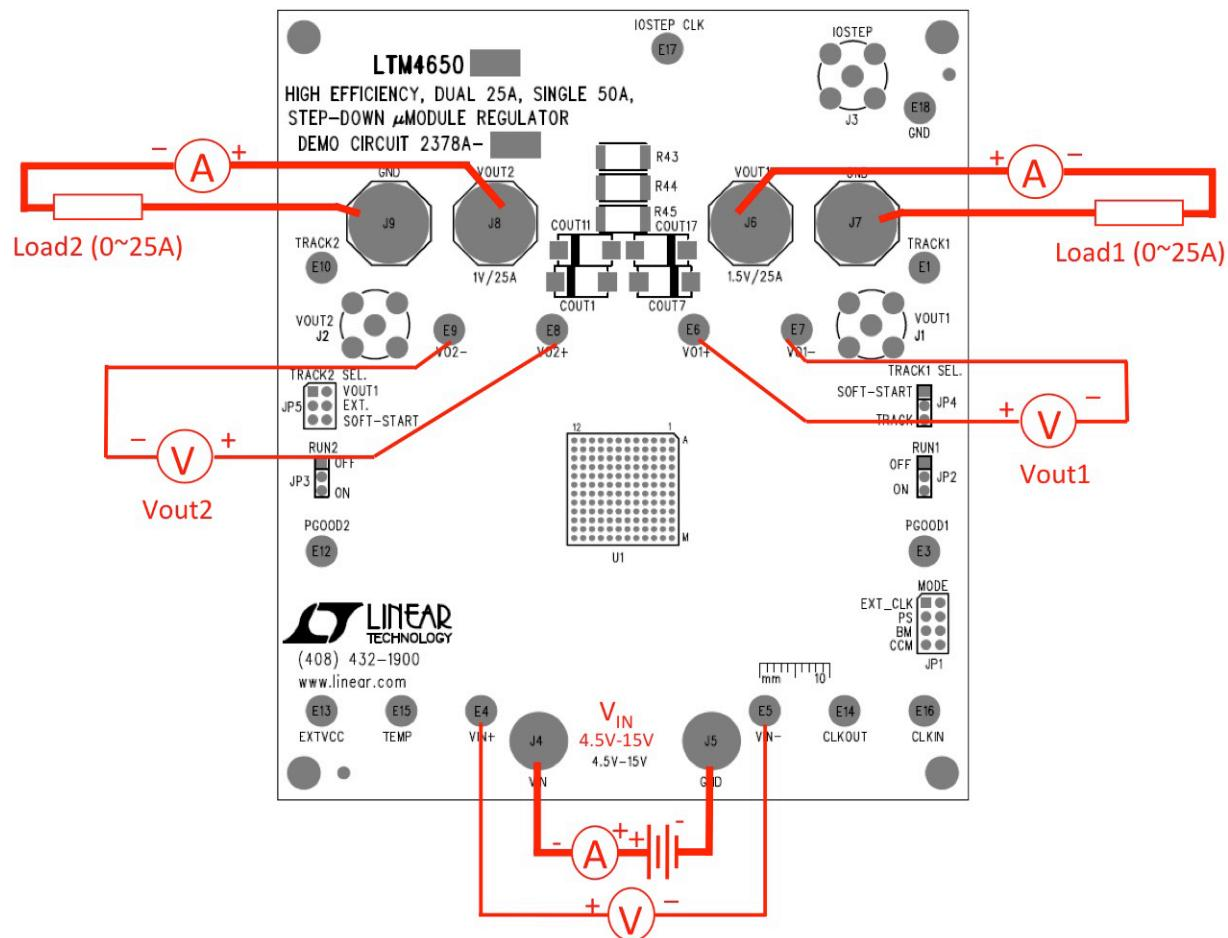

Figure 2. Test Setup of DC2378A-B
Demonstration circuit DC2378A-B is easy to set up to evaluate the performance of the LTM4650EY-1. Please refer to Figure 2 for proper measurement setup and follow the procedure below:
2. With power off, connect the input power supply, load and meters as shown in Figure 2. Preset the load to 0A and V_{IN} supply to 12V.